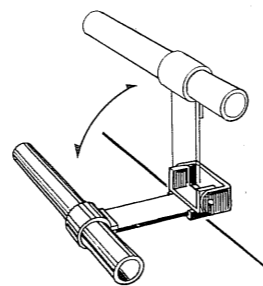

Fig. 7
- Refer to "AM RECEPTION" on page 8. With an AM station tuned in, position the ferrite antenna for optimum pickup. See Fig. 7.